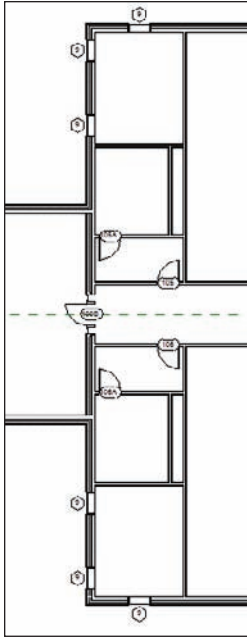

FIGURE 2.79 Placing the windows to the corner of the building and mirroring them
5. Mirror the windows and tags (see Figure 2.79).